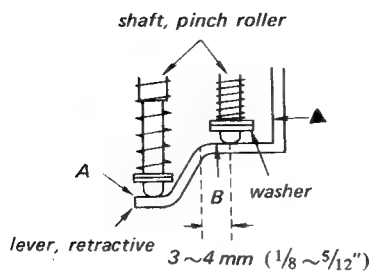

Fig. 11-8 Pinch roller stroke adjustment
- (1) Remove the head deck (See page 6).
- (2) Adjust the screw ① so that the pinch roller shaft comes in contact with the retractive lever at the position (A) shown in Fig. 11-8, in STOP mode.